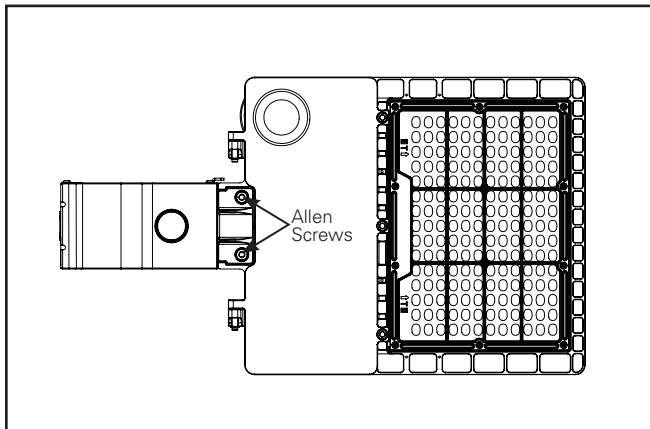

Figure 9.
8. Route wire leads from luminaire into the pole mount arm and slide the luminaire onto the pole mount arm. Secure with two Allen screws. Tighten to 30 in-lbs. (Figure 9.)